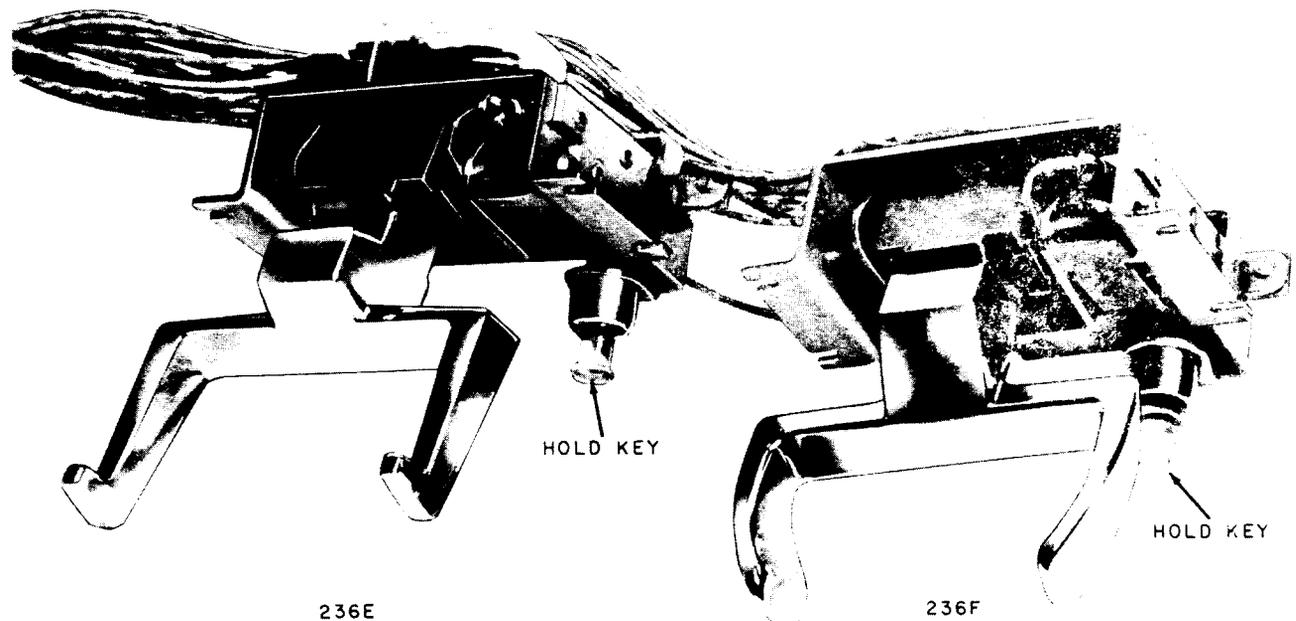

Fig. 14—236E and F Line Switch
**2.39** The **236E and F** switches (Fig. 14) consists of a 235-type line switch equipped with a hold key and is intended for use on 3/8-inch maximum thickness panel installations where a hold or exclusion feature is desired. The hold key is mechanically linked to the operating mechanism of the line switch. The handset must be removed to operate the hold key and replacing the handset automatically restores the hold key.